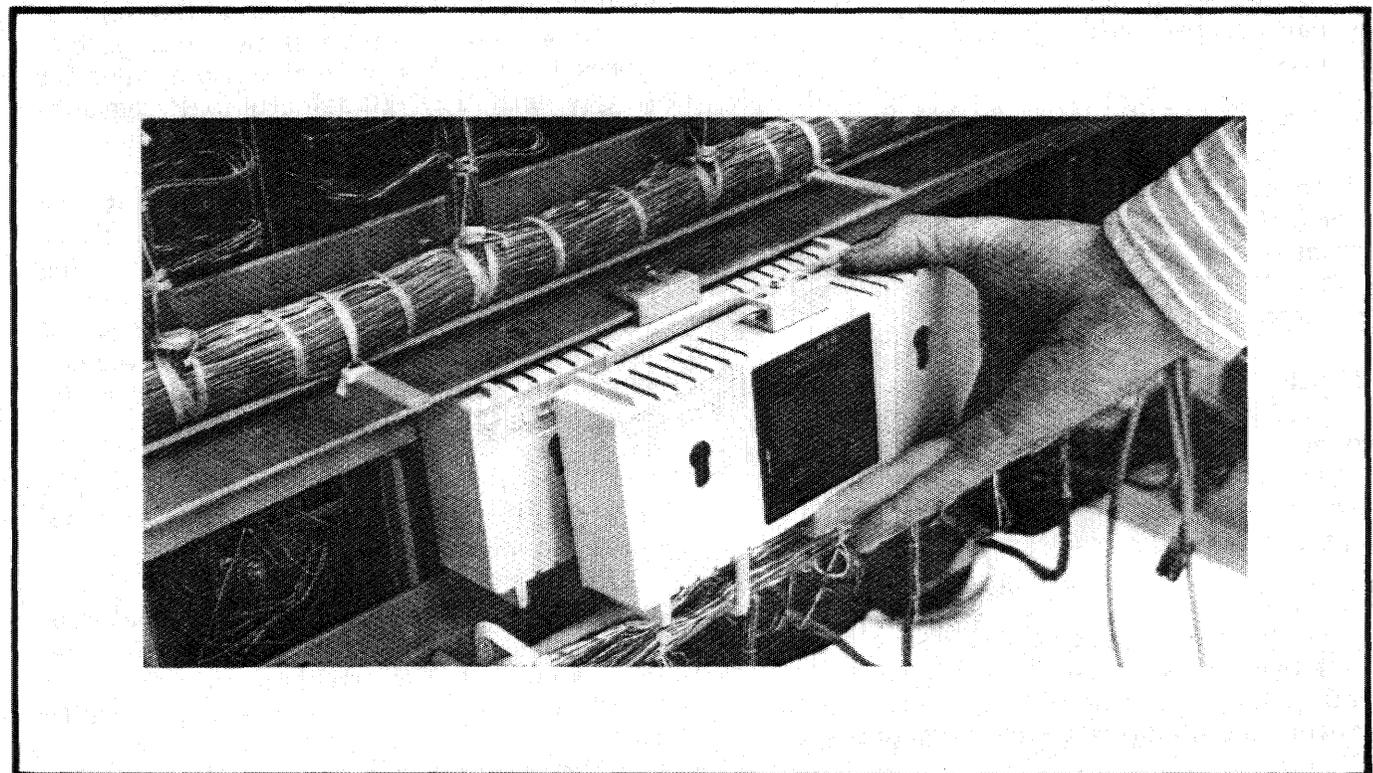

Figure 9 Second M-164 Secures to First Unit
6.23 The second unit is secured by slipping the retainers on the front into the keyslots in the back of the first unit as shown in figure 9. When the second unit is being secured it will be necessary to press downward until the units are flush at the top and bottom. To separate the units later, the retaining clip at the center of the lower front edge of the second unit must be pulled toward the back as the unit is lifted up out of the keyslots.